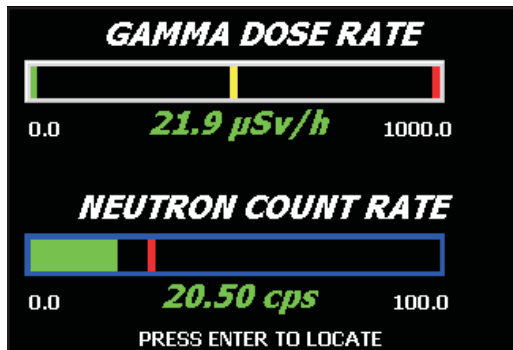

Figure 16 Dose Neutron Display
- Dose Neutron – Displays the current Gamma Dose Rate and the Neutron Count Rate as bargraphs (Figure 16).